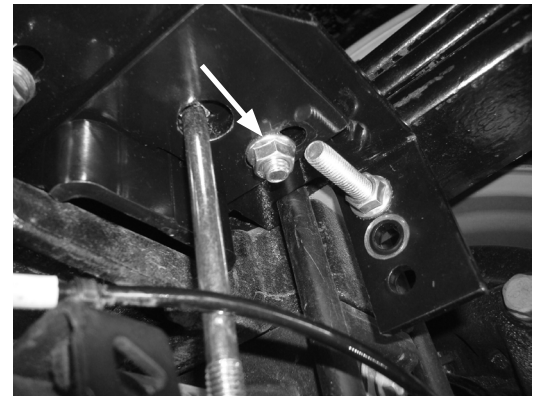

Fig. 21
7. Torque the nut (Q) to 32 lbs. ft (43 N-m) on both sides (Fig. 21).